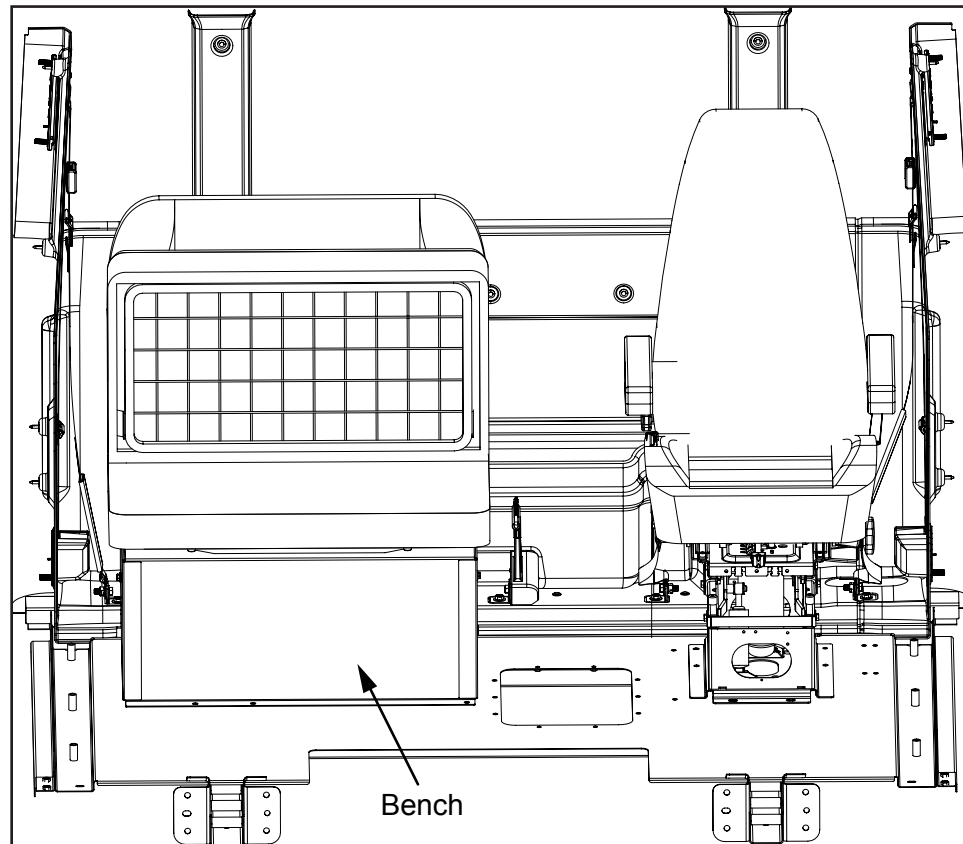

Figure 8
9. Remove or move the bench forward to gain access to the seat belt (see *Figure 8*).